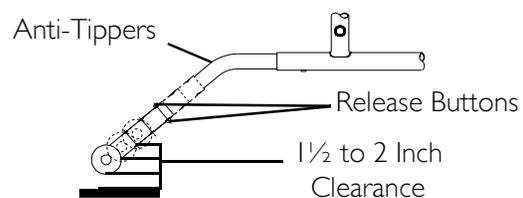

FIGURE 9.2 Adjusting the Anti-Tippers
NOTE: For this procedure, refer to FIGURE 9.2.
2. Press the release buttons near the wheeled portion of the anti-tipper and slide it up or down to achieve the 1½ to 2-inch clearance (FIGURE 9.2).